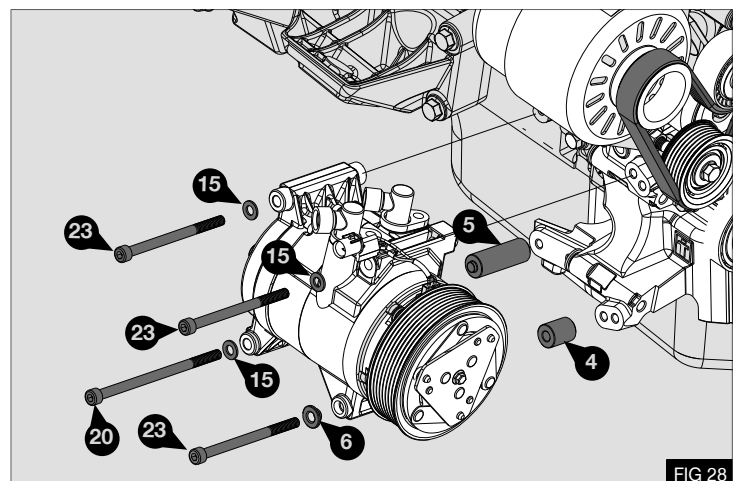

FIG 28
- Fit the compressor (not supplied) to the bracket (1) using M8 x 110 bolts (23) and M8 x 140 bolt (20) with washers (15) and spacers (6), (5) & (4) - Fig 28
- Torque bolts (23), (20) to 35Nm / 26lbf